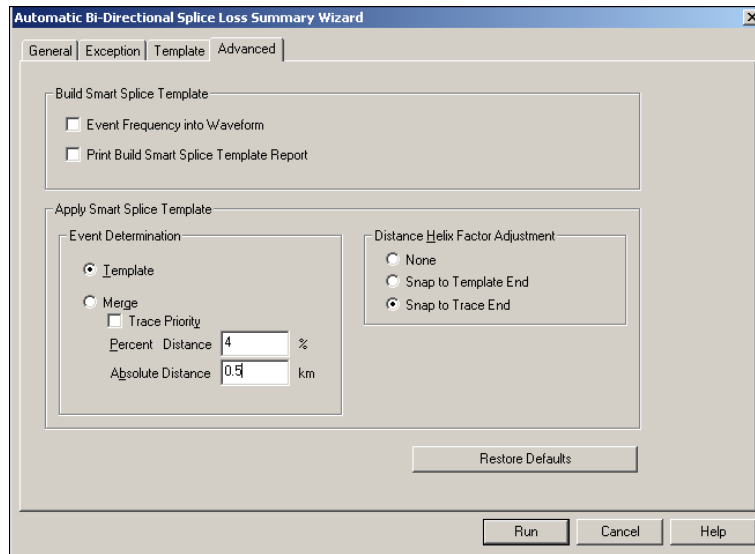

Figure 12-11: Wizard Advanced Tab
5. Set up the Wizard controls as shown in Figure 12-8 through Figure 12-11.